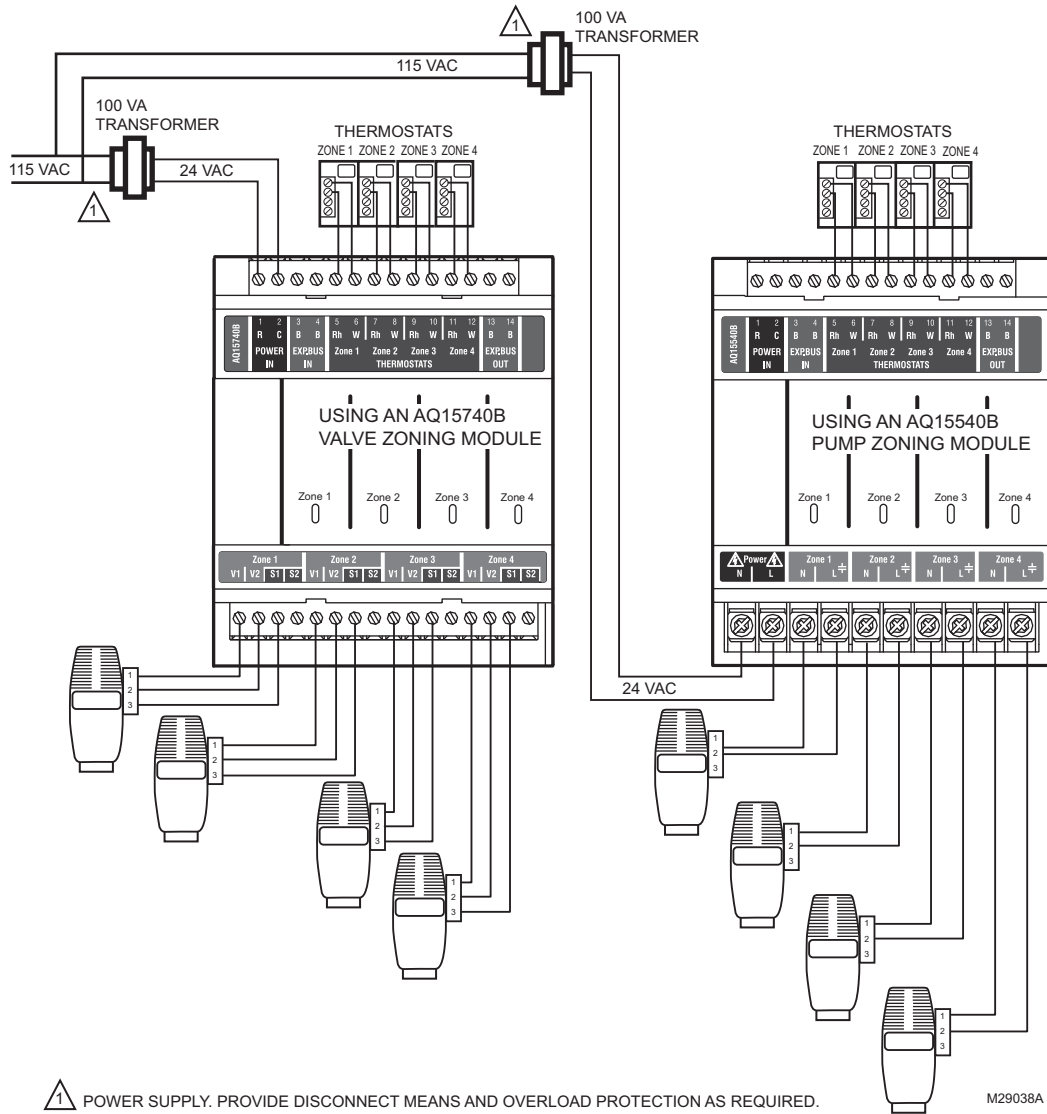

Fig. 13. Wiring of additional low voltage VA capacity.
If low voltage zone valves with end switches are used for zone control, make sure the selected zone valves do not draw more power (VA) than the 38 VA capacity of the AQ10X38 transformer supplied with the AQ250 Control Panel. This integral transformer has enough power to operate 4 motorized zone valves (such as Honeywell V8043E valves or 4 valves using low-amperage draw, heat motor actuators, such as Honeywell MV100 actuators), plus power the electronics of the AQ250's Control Module and up to 16 AQ1000 thermostats. If zone valves with high-amperage draw, heat motor actuators are used (such as Taco 500 series zone valves), additional 24 Vac transformer capacity will need to be wired to the Zoning Module to power the valves. See Fig. 13 on page 10 for recommended wiring of additional low voltage VA capacity to AQ2000 Series Zoning Modules.